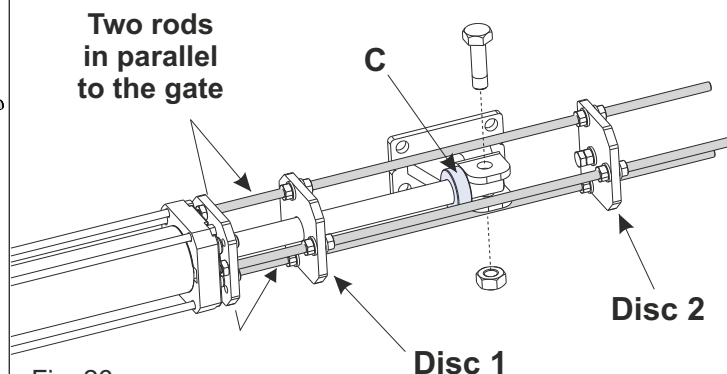

Fig. 26
- 5) **FOR MINI TANK OPERATOR ONLY:** insert the supplied bush (C) in the shaft (Fig. 26)